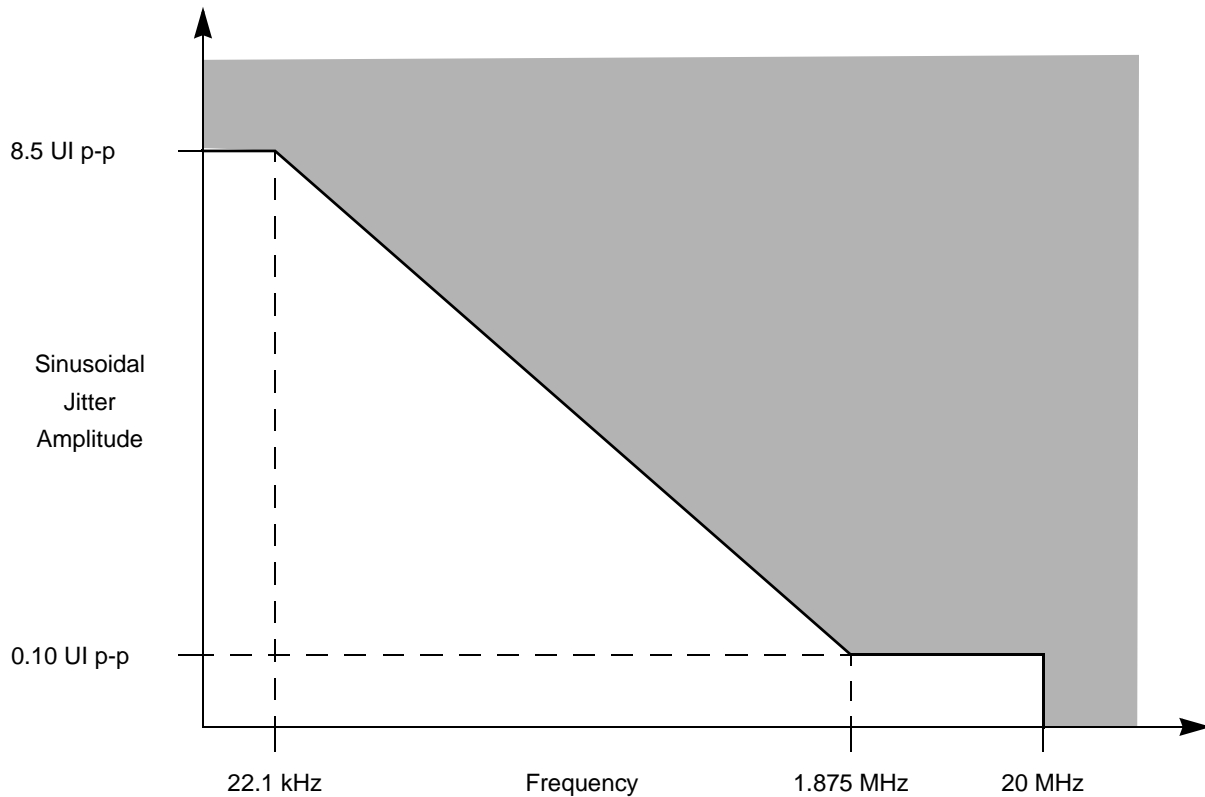

Figure 59. Single Frequency Sinusoidal Jitter Limits
- Total jitter is composed of three components, deterministic jitter, random jitter and single frequency sinusoidal jitter. The sinusoidal jitter may have any amplitude and frequency in the unshaded region of Figure 59. The sinusoidal jitter component is included to ensure margin for low frequency jitter, wander, noise, crosstalk and other variable system effects.
1. Total jitter is composed of three components, deterministic jitter, random jitter and single frequency sinusoidal jitter. The sinusoidal jitter may have any amplitude and frequency in the unshaded region of Figure 59. The sinusoidal jitter component is included to ensure margin for low frequency jitter, wander, noise, crosstalk and other variable system effects.